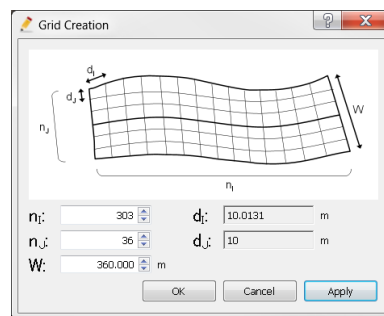

Figure 7. Grid Creation dialog that allows you to specify grid characteristics.
- A new dialog opens that allows you to specify the number of nodes in the stream-wise direction, n_i , the number of nodes in the cross-stream direction, n_j , and the width of the grid, W (Figure 7). Set the grid width equal to 360 meters and define the number of points in the streamwise and cross-stream dimension to give corresponding increments of about 10 meters (displayed by d_i and d_j). The distance between nodes in the stream-wise direction along the center line and the cross-stream direction is constant everywhere on the grid. Use the Apply button on the dialog to dynamically change the view of the grid to find the desired spacing of nodes in the stream-wise and stream-normal directions. Select OK when you are done. If you need to return to this menu, select **Grid ► Create Grid** from the **Menu Bar**.